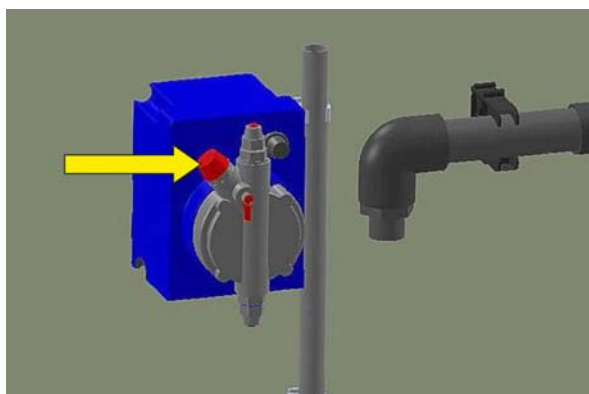

Figure 7-9: Knob at acid pump
4. Open the knob (see figure 7-9) by turning it.